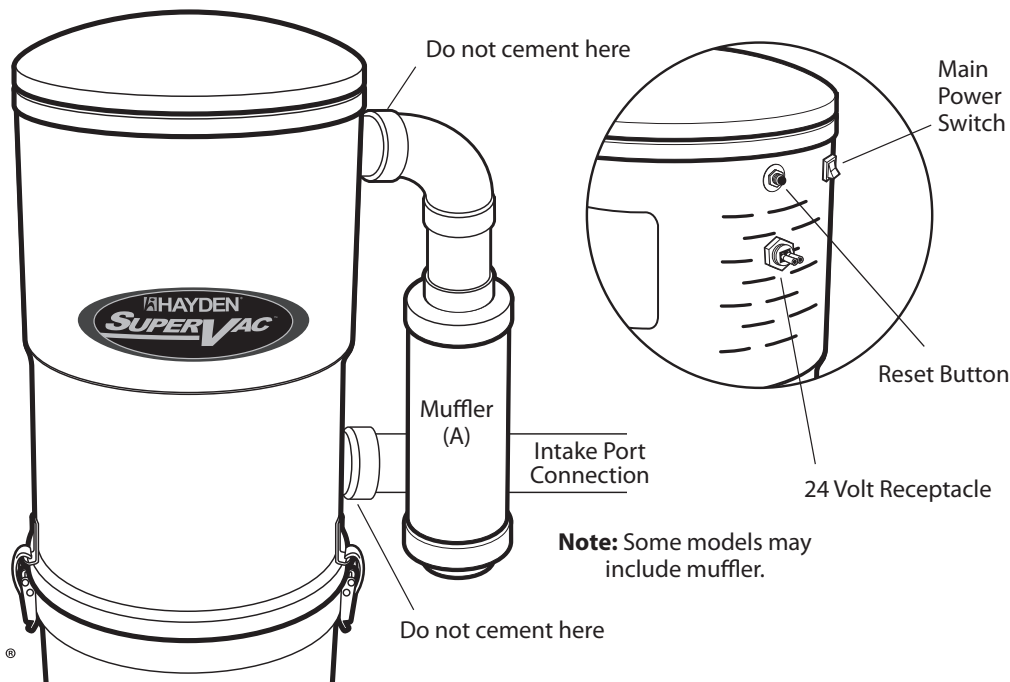

Fig. 2-2
6. A noise-reducing muffler (A) may be included in the pack, which can be installed as shown in Fig. 2-2. Connect the muffler to the exhaust port on the unit. **Do not cement to the plastic exhaust port.**